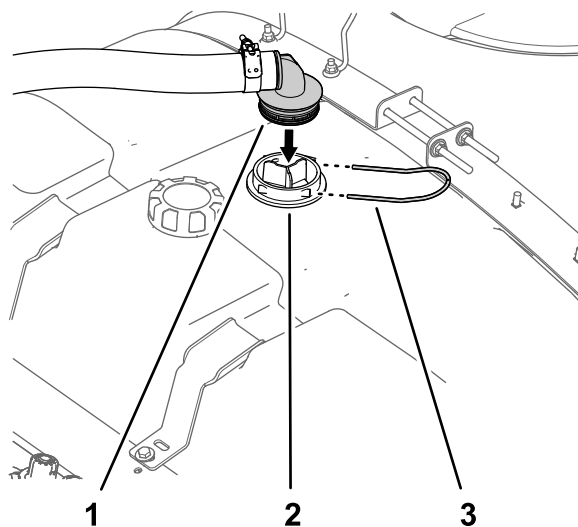

Figure 2
1. At the top of the spray tank, remove the retainer fork that secures the 90° barbed fitting of the suction hose to the housing for the suction screen, and separate the barbed fitting from the housing (Figure 2).
2. Remove the 90° fitting from the suction-screen housing (Figure 2).